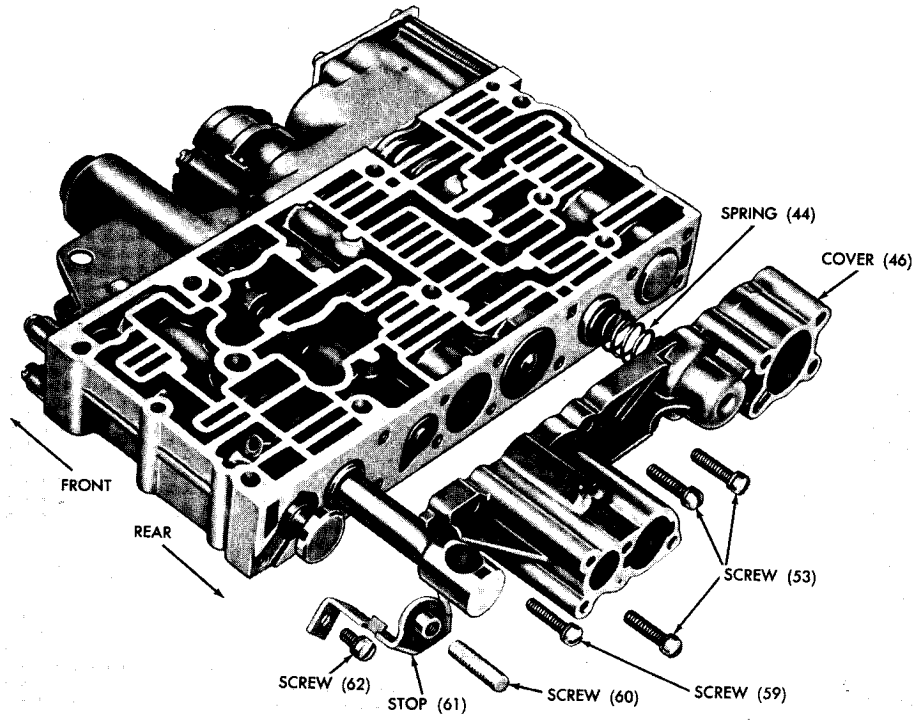

Fig. VIII-10 Control valve body and rear cover, rear end — exploded view
(11) Control valve body and rear cover, rear end (fig. VIII-10)